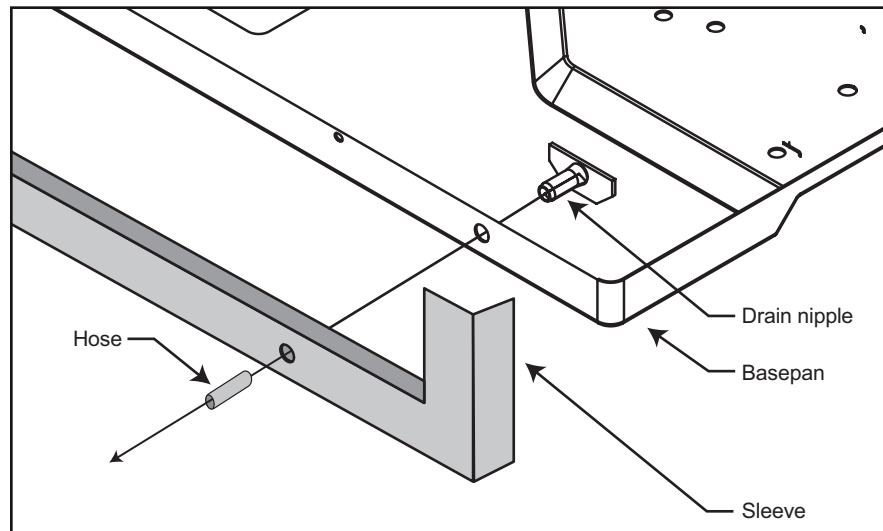

Figure 13
STEP 1. Find the drain plate on the rear of the basepan and remove it. (See Figure 13).